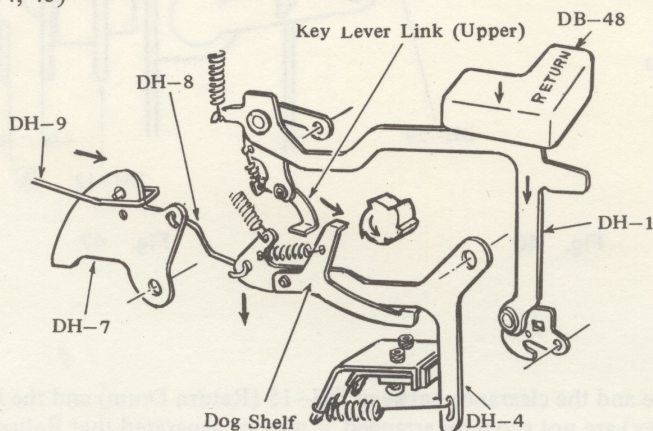

Fig. 44
DH-32 is pulled by DH-44 (Spring), DH-29 (Driving Arm) and Return Clutch are returned to the original position, DH-11 and DH-12 are released at their pawl portion, then Carriage Return will be released. (Fig. 44, 45)
- (3) Adjust the momentum of DH-4 (Dog Shelf Holder) with DD-25 (Adjusting Screw) so that DH-35 will accomplish its movement at the position where passed 0.2 to 0.3 mm against DH-37 and DH-35 will engage with DH-37 by pushing DB-48 (Carriage Return Key) with rotating DD-27 (Snatch Roll) by hand. (Fig. 44, 45)